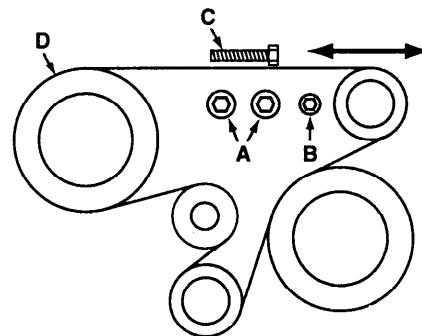

FIG 27
3. Loosen two idler pulley locking bolts "A" and remove locking bolt "B". (Figure 27)
5. Route new belt around pulleys as shown. (Figure 27)